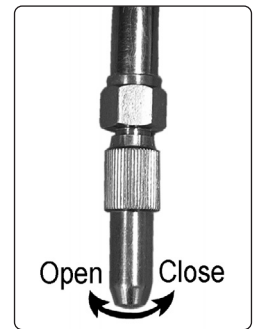

fig.1
- 5.1. Open the nozzle valve (fig.1).